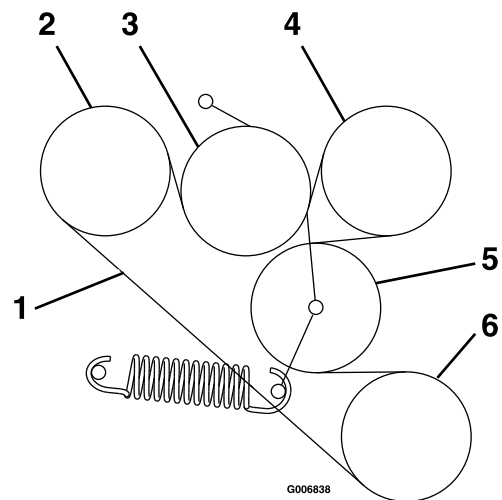

Figure 61
6. Route the new belt onto the sheaves as shown in the decal located on the back of the left drive shield (Figure 61).